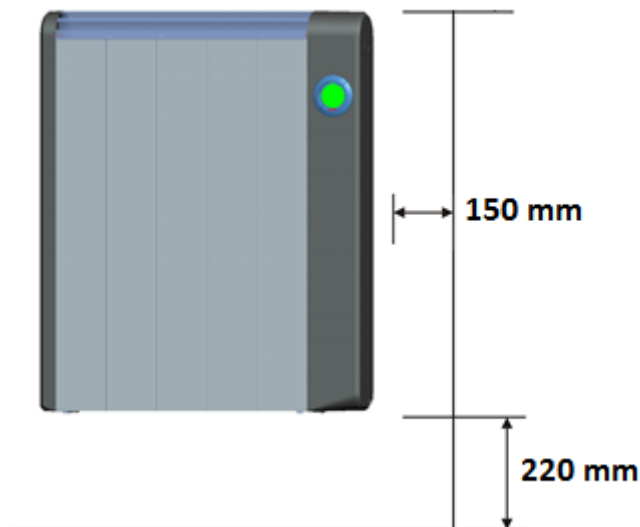

Fig.2
2. The heater should be placed with a minimum distance 150mm from all objects, walls (fig 2). The distance from the floor must be 220mm and, from the top, 300 mm.